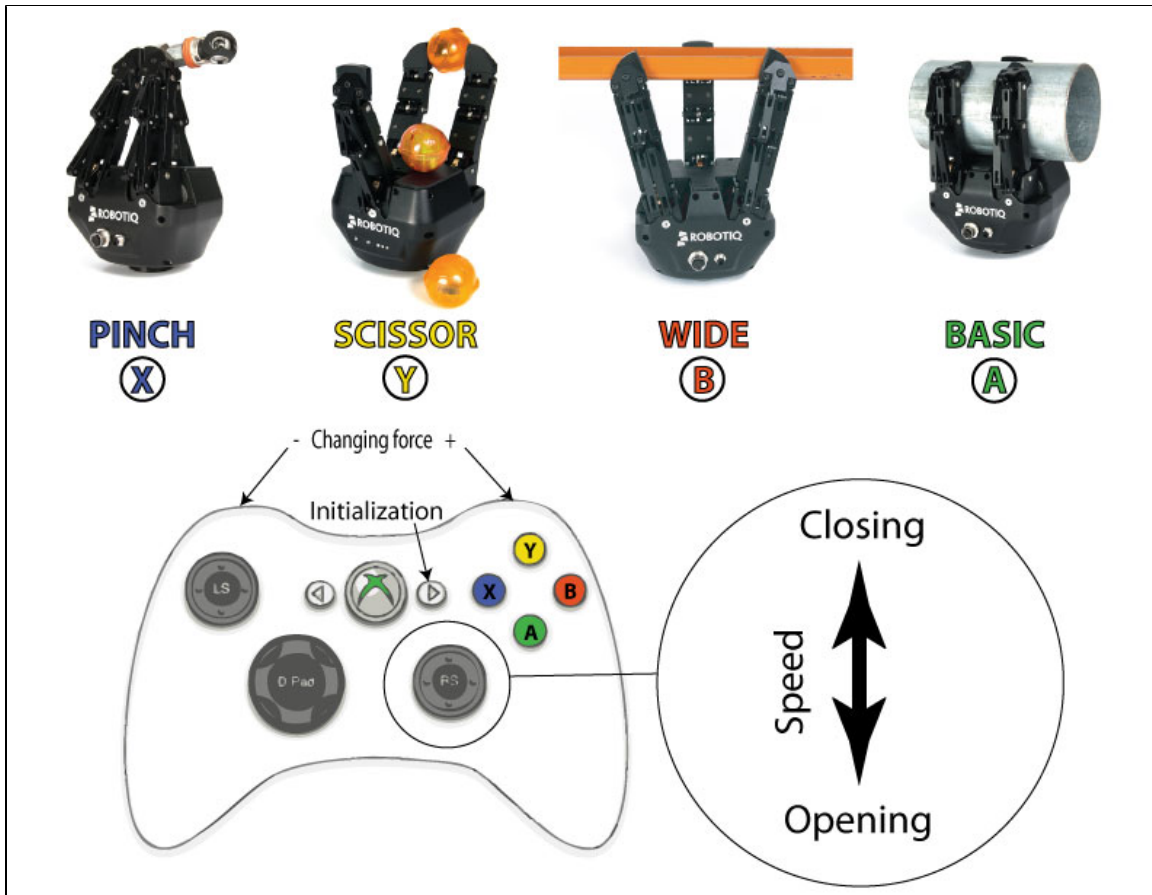

Figure 5.5.2.1 Xbox Controls for the Adaptive Gripper
- **Xbox Joystick control** allows control of the Gripper using a remote Xbox controller (see Figure 5.5.2.1 for a summary of the available controls).